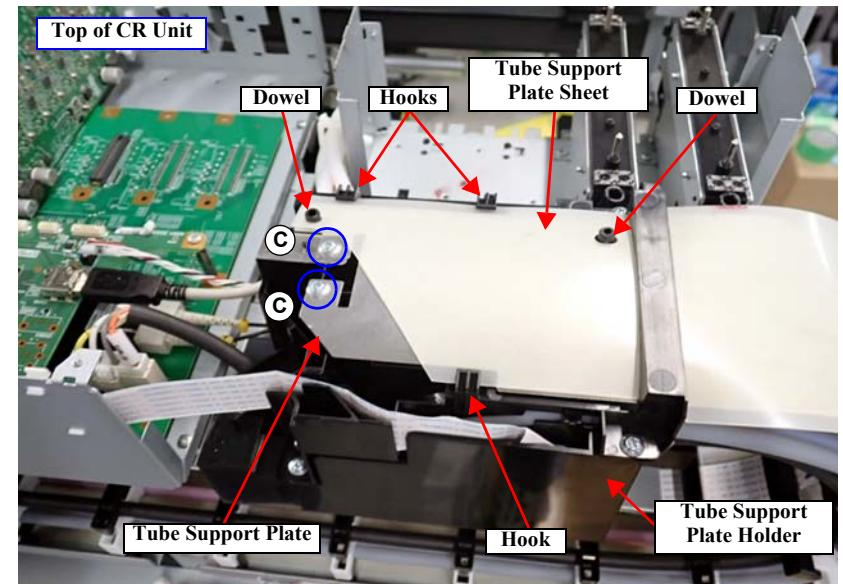

Figure 3-289.
7. Secure the 2 Tube Support Plate with the 2 screws. (Figure 3-289)